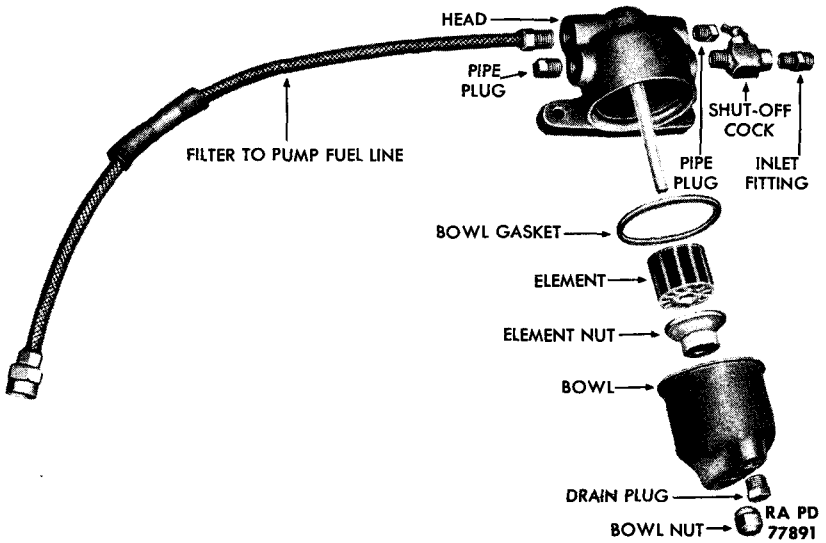
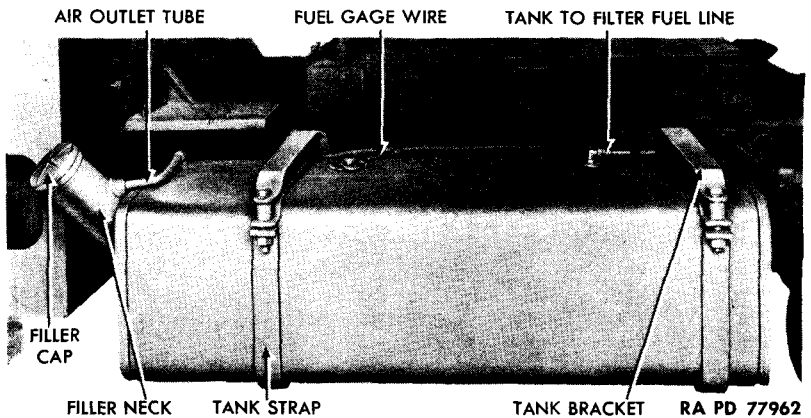

Figure 32 — Fuel Filter Disassembled
Figure 34 – Removing Fuel Tank Shield
(1) **DESCRIPTION (figs. 32 and 33).** The fuel filter is mounted on the outside of main frame left side rail, and can be reached through an opening immediately above the left-hand lower step. Gasoline flows from the fuel tank to fuel pump through the filter,
b. Maintenance (fig. 32). Service fuel filter when lubricating chassis. Remove bowl nut from bottom center of bowl. Lower bowl and bowl gasket from filter head. Unscrew element nut and lower element from stud. Wash all parts in dry-cleaning solvent, and dry with compressed air. Inspect element and gasket, and replace broken, bent, or torn parts. Place element in position on stud, and install element nut. Position gasket on top of bowl, position bowl on under side of filter head, and install bowl nut. Loosen one of the two pipe plugs on side of filter head and start engine. Tighten pipe plug when fuel drips from it.
(1) **DESCRIPTION** (fig. 34). The 60-gallon, welded sheet metal fuel tank is located outside the chassis frame ahead of the left rear wheel. It is supported by two cast brackets bolted to the frame side rail and extending out over the tank. It is secured to the brackets by two steel straps. The fuel outlet elbow and gage connection are on top of the tank, protected by a wood shield bolted to the brackets. A drain plug is located on the under side of the tank. A filler
b. Maintenance (fig. 34).
(1) Twist tank filler sleeve, and pull from filler neck at time of chassis lubrication. Clean sleeve with dry-cleaning solvent, and dry with compressed air. Install sleeve in filler neck, and check tightness of all strap and mounting bolts.
(2) During cold weather especially, always keep tank nearly full to reduce condensation. Whenever water appears in fuel filter or in fuel pump sediment bowl, remove drain plug from fuel tank. Catch gasoline in clean containers, and strain through a chamois skin or other filter which will remove water. Install drain plug, and refill tank.
(3) Remove gravel, stones, rust, scale, or other foreign matter from tank. *NOTE: Foreign matter in tank is indicated by clogged tank to filter fuel line, rapid fouling of fuel filter, plugging of drain, or by noise in fuel tank.* Remove tank (subpar. c, below). Twist tank filler sleeve, and pull from filler neck. Empty foreign matter from tank through filler neck, rinse tank with dry-cleaning solvent, and inspect for leaks or other damage. Replace tank if damaged. Install tank (subpar. d, below).
4- TO 5-TON 4 x 4 TRACTOR TRUCK (AUTOCAR MODEL U-7144T)**c. Removal (fig. 34).**
d. Installation (fig. 34).
a. **Description.** Gasoline is conducted from fuel tank to carburetor through three fuel lines. Tank to filter fuel line (fig. 34) and pump to carburetor fuel line is flexible woven metal (fig. 32). Brass sleeve coupling nuts are used throughout.
c. **Removal** (figs. 34, 29, and 32). Completely unscrew sleeve coupling nut from each end of tubing. Remove clips along tubing (step (2) above). Work tubing from vehicle.
d. **Installation** (figs. 34, 29, and 32). Place tubing in position occupied by original installation. Connect sleeve coupling nut at each end of tubing. Install clips (step (2) above) along length of tubing.